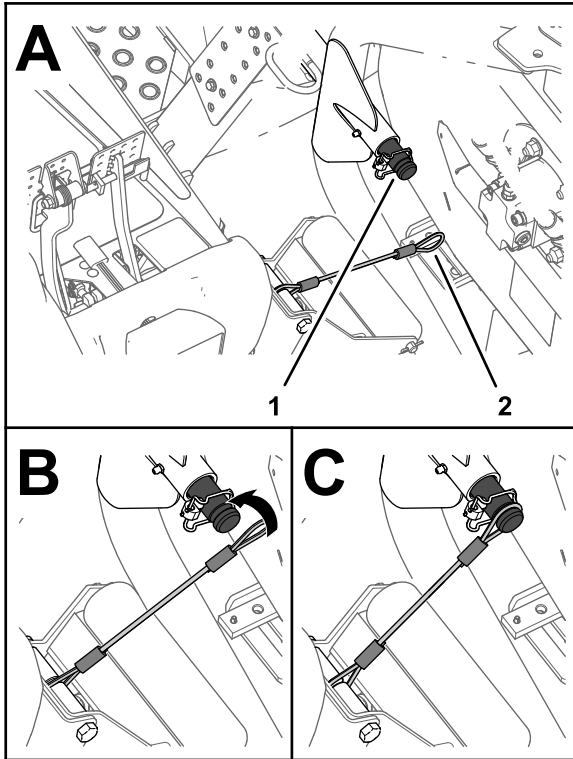

Figure 40
5. Align the lanyard to the carrier shaft of the lift arm for the forward outer-cutting unit (Figure 40).
6. Slip the loop in the lanyard over the carrier shaft until the lanyard is fully seated in the groove in the shaft (Figure 40).